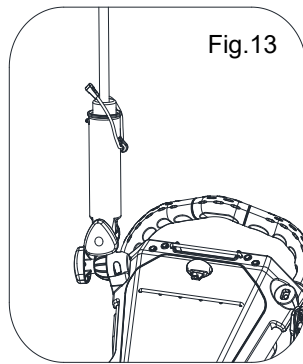

Fig.13
2. The elastic rope on the umbrella holder can be used to secure the umbrella as Fig. 13.